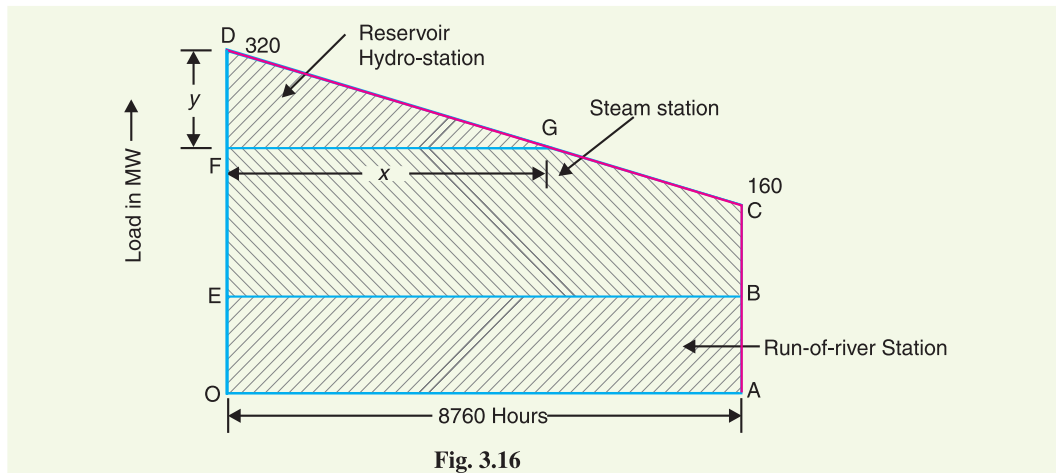

Fig. 3.16
**Solution.** ODCA is the annual load duration curve for the system as shown in Fig. 3.16. The energy supplied by the reservoir plant is represented by area *DFG*; steam station by area *FGCBE* and run-of-river by area *OEBA*. The maximum and minimum loads on the system are 320 MW and 160 MW respectively.
Suppose the maximum demand of reservoir plant is  $y$  MW and it operates for  $x$  hours (See Fig. 3.16).